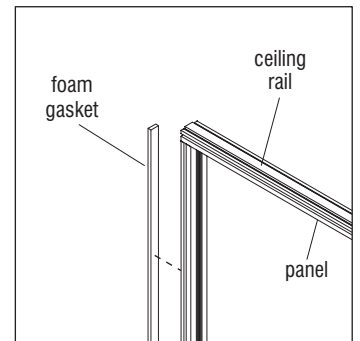

Figure 6
6. Panel installation at drywall (Figure 6).